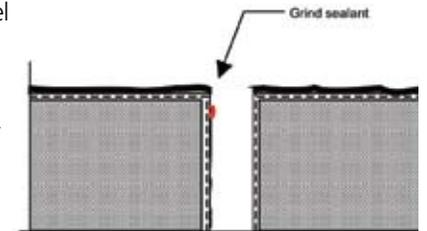

Fig. 4
3. Remove residue of sealant in the joint by grinding with a hand held grinder, taking care not to damage the EIFS finish on the face of the wall, or to grind through the layer of base coat in the joint and damage the EIFS reinforcing mesh (Fig. 4).